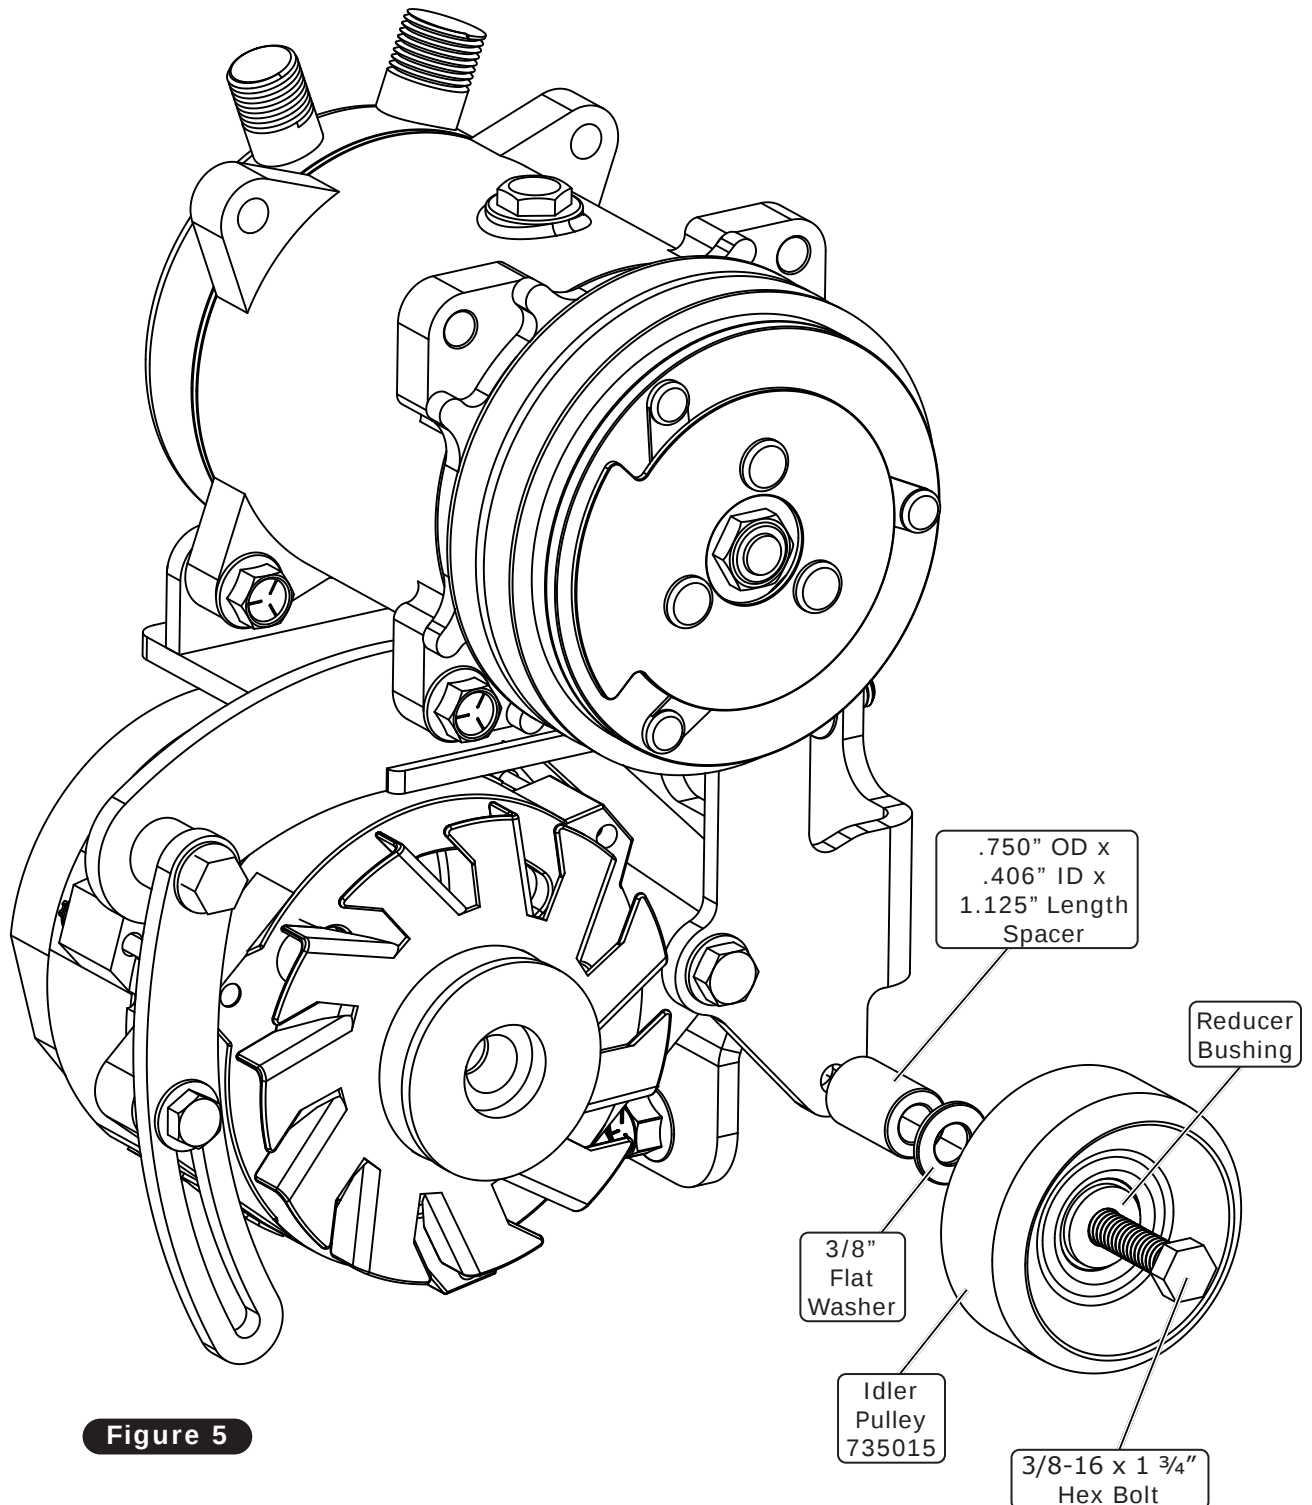

Figure 5
6. Install the idler pulley onto the assembly using a 3/8-16 x 1 3/4" hex bolt, a 3/8" flat washer, and a .750" OD x .406" ID x 1.125" length spacer (See Figure 5, below). **NOTE: The reducer bushing included in the pulley box should be on the outside of the pulley as shown in Figure 5, below.**